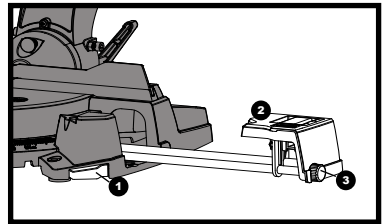

Fig 33
Turn the adjustment knob (3) clockwise or counter clockwise as required for final exact positioning of the stop plate. (See fig. 33)
With the stop plate in its stored position the extension arm can be used to support long workpieces. (See fig. 33)